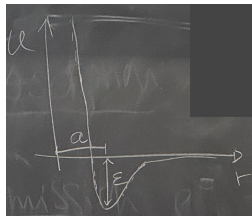

Figure 2.5: Potential well.
- In a typical attraction well, we have a most probable distance  $a$ , at which the energy depth is  $\varepsilon$  (see Figure 2.5).